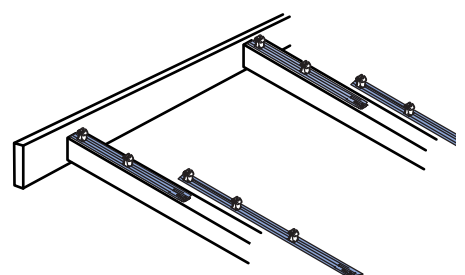

Figure 3
- 2 Position the first clips on each purlin by placing onto the purlin nearest the gutter. (Figure 3)